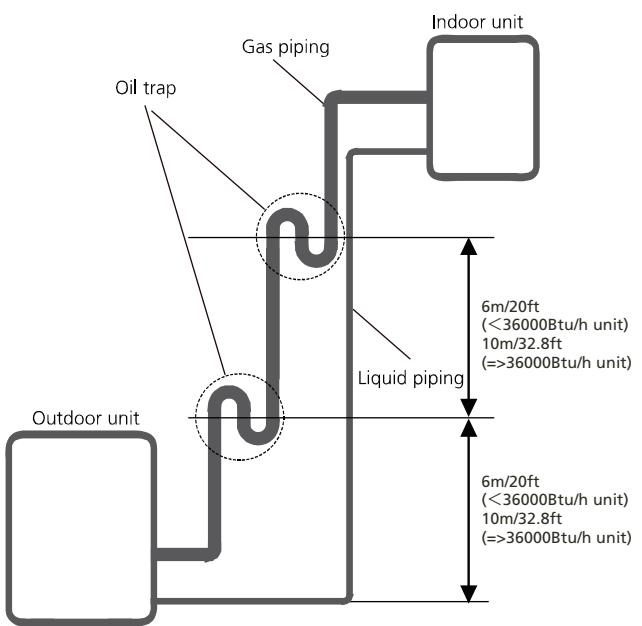

Fig. 6.1
-If oil flows back into the outdoor unit's compressor, this might cause liquid compression or deterioration of oil return. Oil traps in the rising gas piping can prevent this. An oil trap should be installed every 6m (20ft) or 10m (32.8ft) of vertical suction line riser. (See Fig. 6.1)